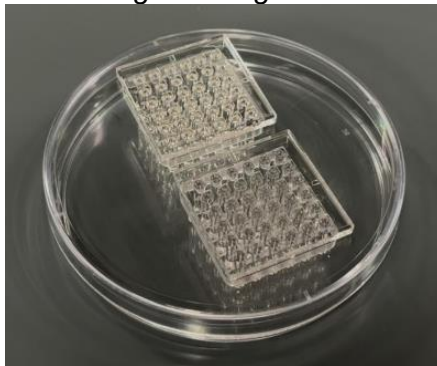

Figure 1. The 36PillarPlate with organoids inserted in the 36PetriLid on a 90 x 15 mm petri dish containing phosphate-buffered saline (PBS) for rinsing.
1. For rinsing, insert a 36PillarPlate with organoids in the 36PetriLid on a 90 x 15 mm petri dish containing 20 mL of 1x phosphate-buffered saline (PBS), and incubate for 10 minutes at room temperature (**Fig. 1**).
4. Balance the sandwiched plates with a pillar plate sandwiched onto a 384DeepWellPlate containing 80 μ L of sterile water in the benchtop plate centrifuge (**Fig. 1**) and centrifuge the plates at 200 rcf for 5 minutes to detach organoids from the pillar plate.
Figure 1. (A) Hermle Benchmark Z-287A benchtop plate centrifuge. (B) Balancing plates in the benchtop plate centrifuge to detach organoids from the pillar plate.
2. Balance the sandwiched plates with a pillar plate sandwiched onto a 384DeepWellPlate containing 80 μ L of sterile water in the benchtop plate centrifuge (**Fig. 1**) and centrifuge the plates at 200 rcf for 5 minutes to detach organoids from the pillar plate.